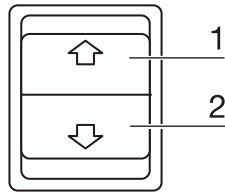

Figure 36 Basic window functions of the auxiliary Rocker Switch
1. Press the control element [1/Figure 36].
3. To lower the window, keep the control element depressed [2/Figure 36].